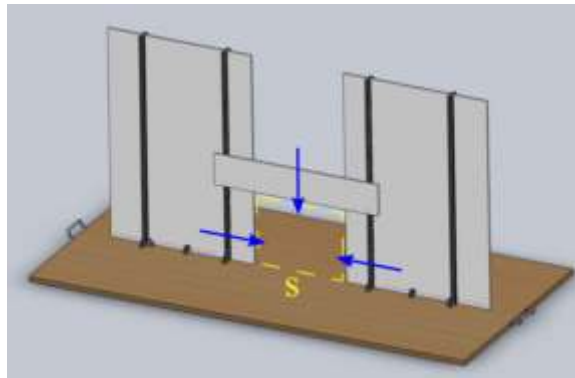

FIGURE 7: WALL TILE. BY MOVING THE PANELS, THE APERTURE WILL BE REDUCED TO MATCH ROBOT DIMENSIONS.
- Task 2: The wall tile is made of three rigid PVC elements which can be moved to reduce the aperture dimensions, see Figure 7. Approximately, the aperture will be a square of side  $s$ , where  $s$  should be decided by teams as follow.